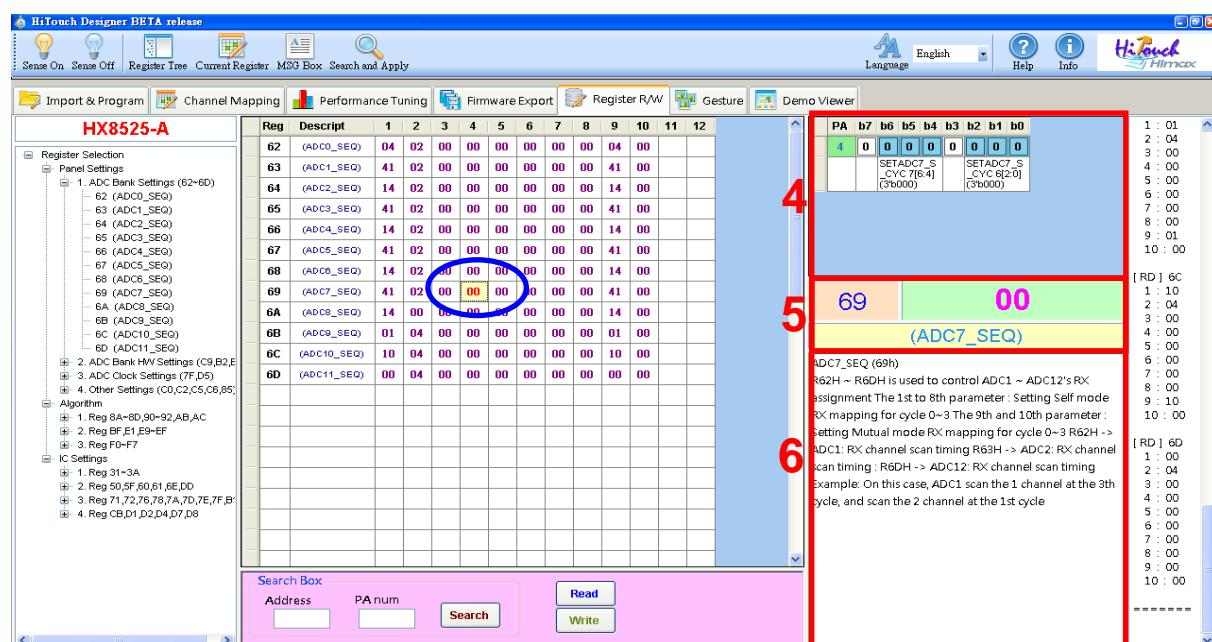

Figure 6-5 : Parameter detail information
- 2) Click the mouse right key in area show as Figure 6-5.